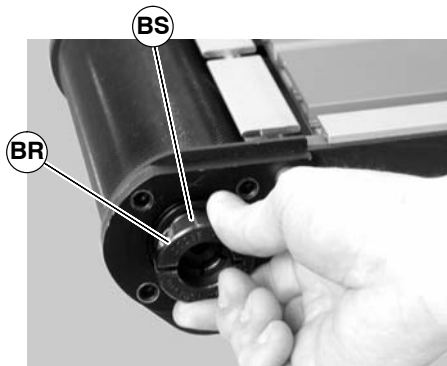
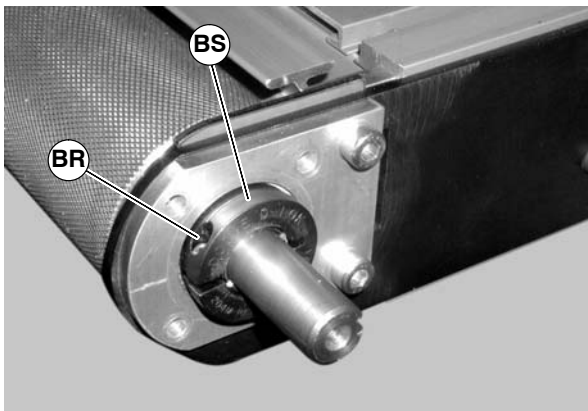

Figure 49
Figure 50
5. Loosen the bearing collar set screw (BR of Figure 49) and remove bearing collar (BS). Repeat on drive shaft side of pulley (BR and BS of Figure 50)..mn